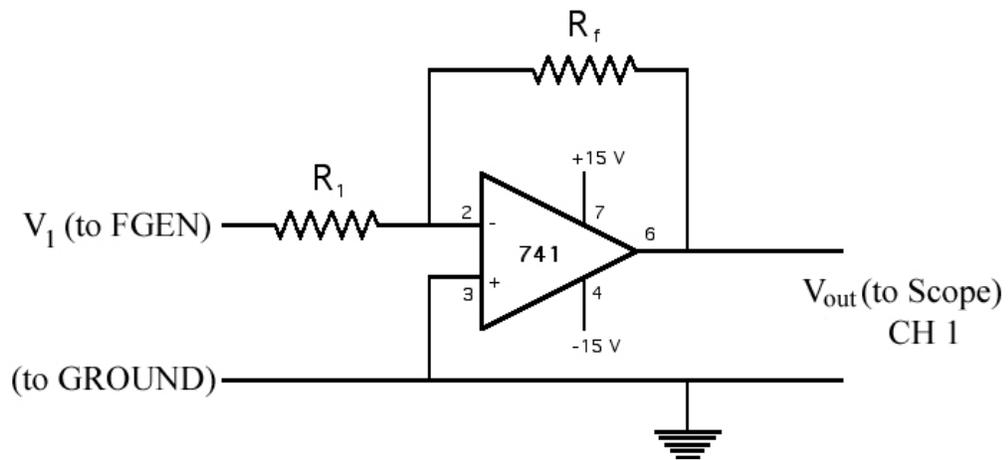

Figure 4.1. Schematic Diagram of a 741 Inverting Op Amp Circuit with a Gain of 10
1. On the workstation protoboard, build a simple 741 inverting op amp circuit with a gain of 10 as shown in Figure 4.1.
The circuit looks like Figure 4.1 on the NI ELVIS II protoboard.